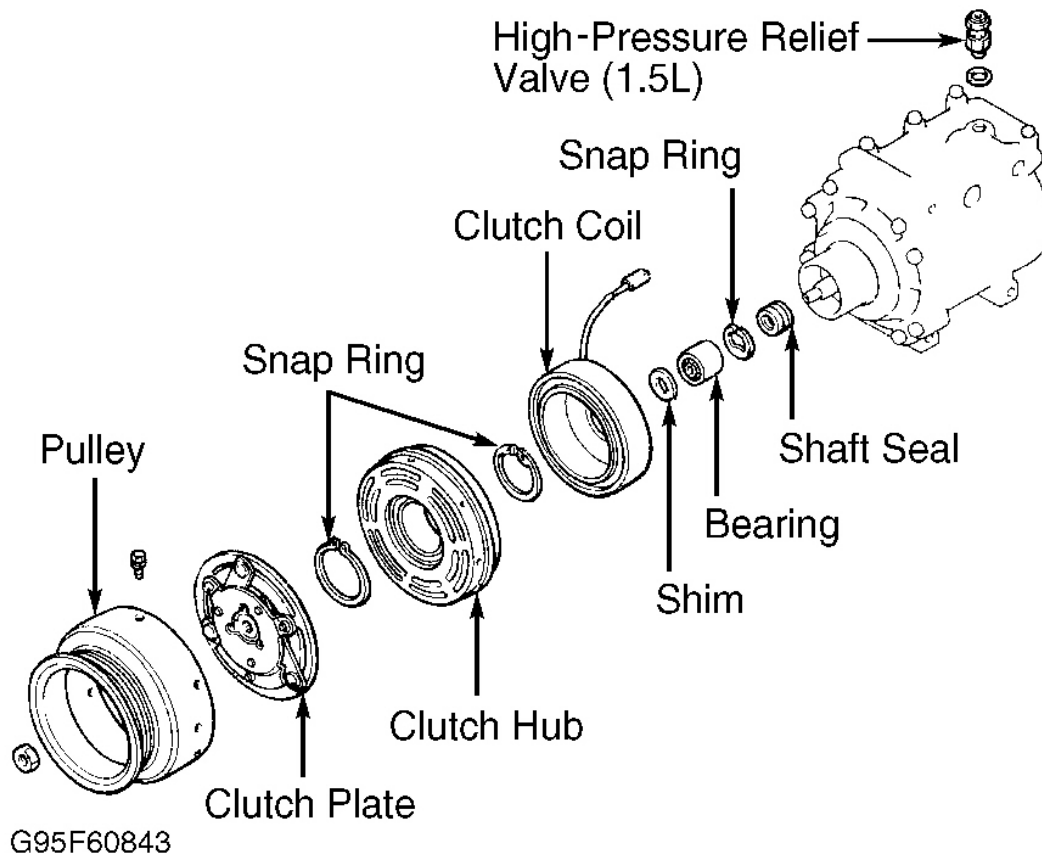
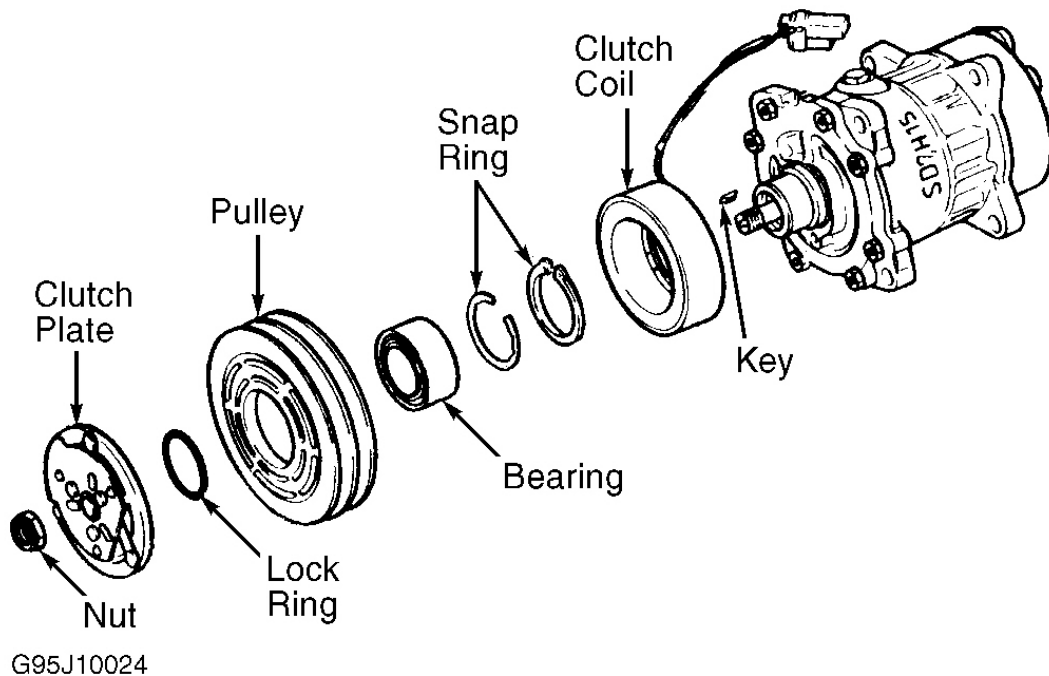

Fig. 11: Exploded View Of Compressor (Sanden Scroll)
Fig. 12: Exploded View Of Compressor (Sanden 7-Cyl.)
2. Remove clutch plate. See **Fig. 11** or **Fig. 12**. Remove snap ring with internal snap ring pliers. Remove
1. Remove compressor shaft nut while holding clutch plate with two 1/4" (6 mm) bolts and Spanner Wrench (Mastercool 90901). Remove clutch plate using two 1/4" (6 mm) bolts and Puller (Mastercool 90902). Remove pulley assembly lock ring. See **Fig. 12** . Using a 2-jaw puller, remove pulley assembly. Position puller jaws onto edge of pulley to prevent pulley groove from being deformed.